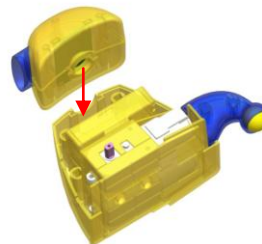

Fig. 8
7. Attach the head part to the main body assembled in step 3, make sure the wires run through the hole of both parts. (Fig.8)